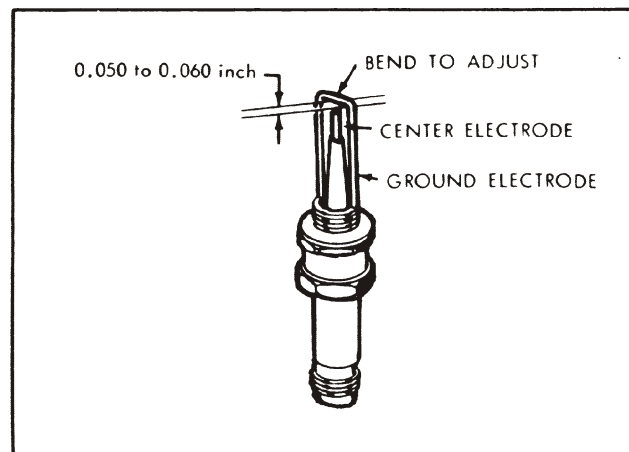

FIGURE 3-9 Type I Spark Plug
Type I Spark Plug has a center electrode and an attached ground electrode bail (see Figure 3-9).
(1) If the spark plug appears to be in good condition, except for a mild coating of oxide on the porcelain and electrodes, it may be cleaned and reused. Cleaning is accomplished on a conventional aircraft type spark plug cleaner, except that it will be necessary to use two or more adapters in order to raise the long extension of the plug far enough out of the cleaner nozzle opening to provide an effective job. Plug the ceramic insert cavity at the terminal-end of the plug with a piece of paper or cloth to keep out any of the cleaning sand. Wipe this cavity out thoroughly with a cloth. If, after cleaning spark plug, porcelain is then white, and the electrodes are not eroded, re-gap the spark plug by carefully bending the ground electrode until a 0.055 inch feeler gage can be inserted between the end of the center electrode and the ground electrode. (See Figure 3-9.)